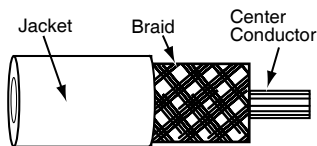

Fig. 4
7. Rotate with minimal forward pressure until tool rotates freely, exposing the braid. (Fig. 4) Remove tool.